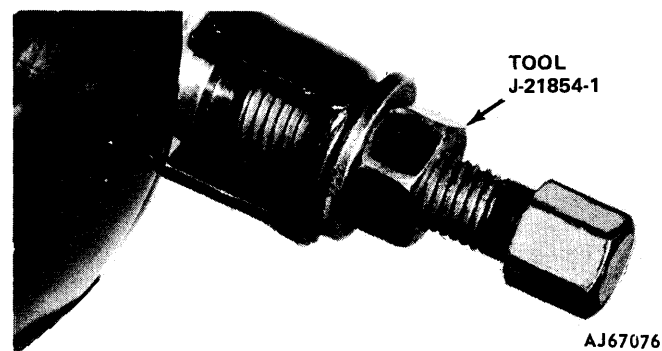

Fig. 11-34 Pivot Pin Removal
(23) Remove shift quadrant mounting bracket and light socket.
(24) Remove tilt release handle.
(25) Remove cover retaining screws and remove cover from column.
(26) Remove lock sector tension spring retaining screw. Unhook spring from lock sector shaft and remove spring.
(27) Remove snap ring from lock sector shaft and remove sector, shaft, and lockpin.
(28) Install tilt release handle and place upper housing in full upward tilt position.
(29) Insert screwdriver in tilt spring retainer slot and compress retainer approximately 3/16 inch. Rotate retainer 1/8-turn counterclockwise and remove retainer and spring.
(30) Place housing in center (non-tilt) position.
(31) Remove housing pivot pins using Tool J-21854-1 (fig. 11-34).